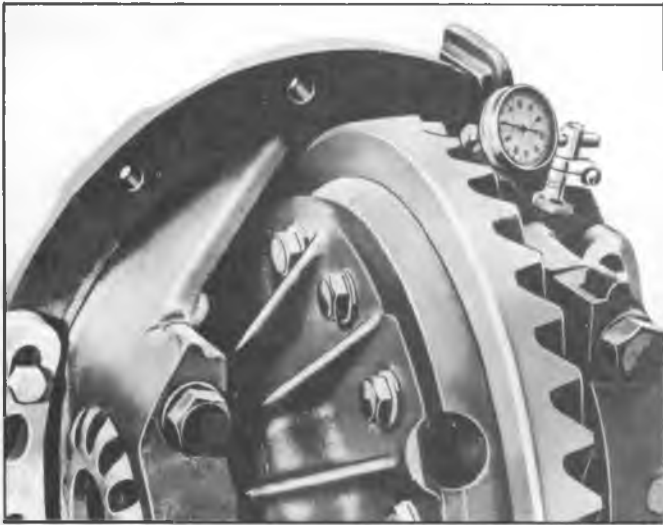

Fig. 16G--Checking Ring Gear and Pinion Backlash
6. Mount a dial indicator on the carrier and check the backlash between ring gear and pinion (fig. 16G). Backlash should be from .003" to .012" (.005" to .008" preferred).